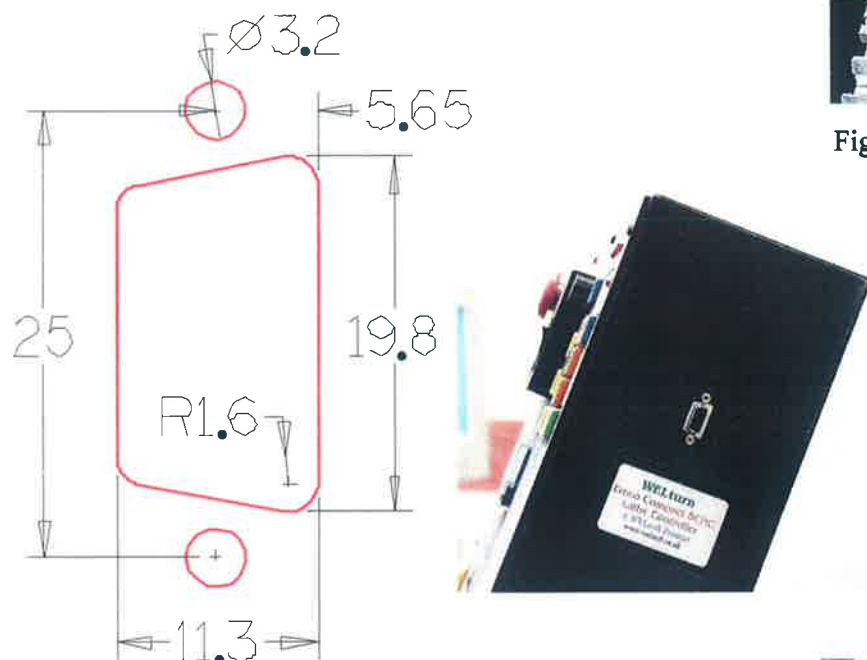

Fig 6 Dimensions & position of hole for 9 way serial socket
- 17) In the narrow, tailstock, end of the lathe casing, cut a hole for the 9 way D socket to the dimensions shown in Fig 6, about 185mm from the top (further down than in the picture) See note below regarding hole punch hire.
Orientate the hole carefully: the new controller pcb should be in the same plane as the existing pcbs in the lathe and its component side should face outwards. Fig 6 shows the hole when looking at the end of the lathe casing.